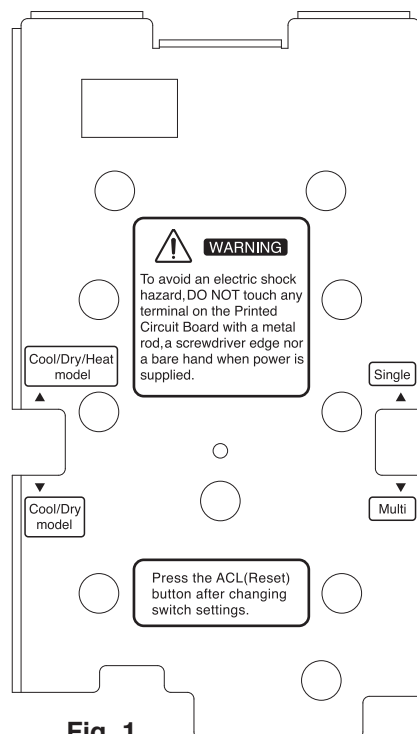

Fig. 1
- The remote controller is set to “Cool/Dry/Heat model” at the time of shipment from the factory. If the purchased air conditioner is a COOL/DRY model, follow the instructions on the label and change the switch on the reverse side of the remote controller unit to “Cool/Dry model”. (Fig. 1)
- The remote controller is also set to “Single” at the time of shipment from the factory. For multiple use, set the switch on the reverse side of the remote controller unit to “Multi”. (Fig. 1)